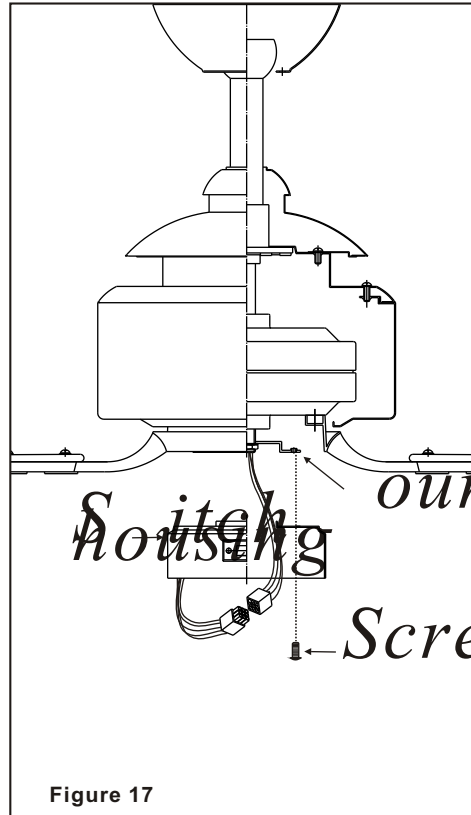

Figure 17
**Step 3.** Place the key holes on the switch housing over the 2 screws previously loosened from the mounting ring, turn switch housing until it locks in place at the narrow section of the key holes. Secure by tightening the 2 screws previously loosened and the one previously removed. (Fig. 17)